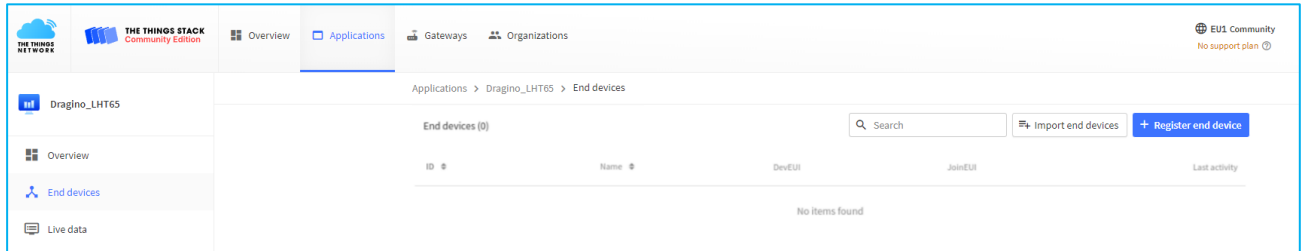

Figure 5: Register SGW2828-EVK on TTN console
3. Click End devices > + Register end device (Figure 5).